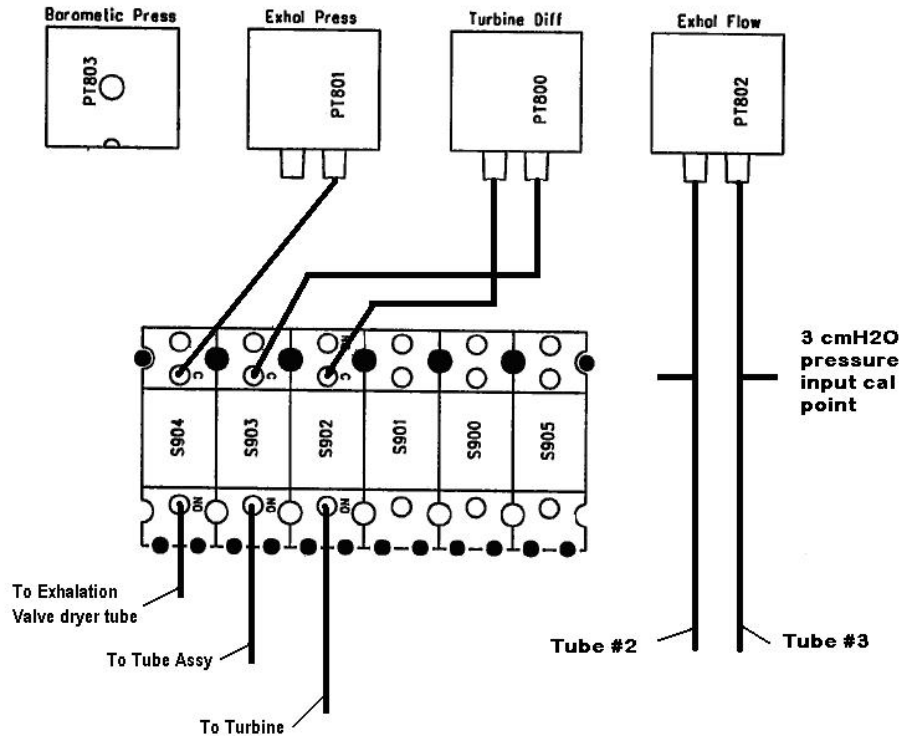

Figure 6.3 Transducer configurations as mounted on main PCB
1. Follow the tube connected to the bottom port of solenoid S904 and disconnect tubing at the larger side 1/8th end of the luer-lock connector. See figure 6.3
6. Connect calibration tubing to the tube listed in figure 6.3 labeled "to exhalation valve dryer tube" (S904)
6. Connect calibration tubing to the tube listed in figure 6.3 labeled "to tube assy" (S903)
2. From PT802 follow the tube labeled "High Pressure side of flow sensor receptacle" in figure 6.3 down to the 1/16th tee connector. At the tee connector turn and follow over to the tubing connector and disconnect at the larger 1/8th side of the tubing connector.
7. Connect calibration tubing to the tube listed in figure 6.3 labeled "Tube #3" that was disconnected from the tee.